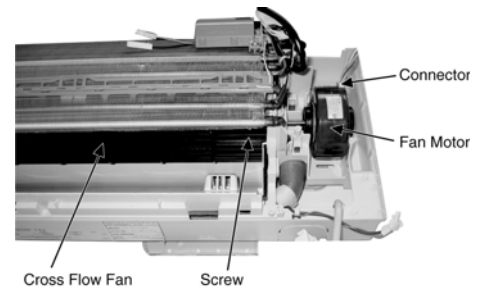

Fig. 10
- Remove the screw at the Cross Flow Fan. (Fig. 10)
Reminder: To reinstall the Fan Motor, please adjust the connector location to 45° with Fan Motor before fixing Control Board. (Fig. 10)